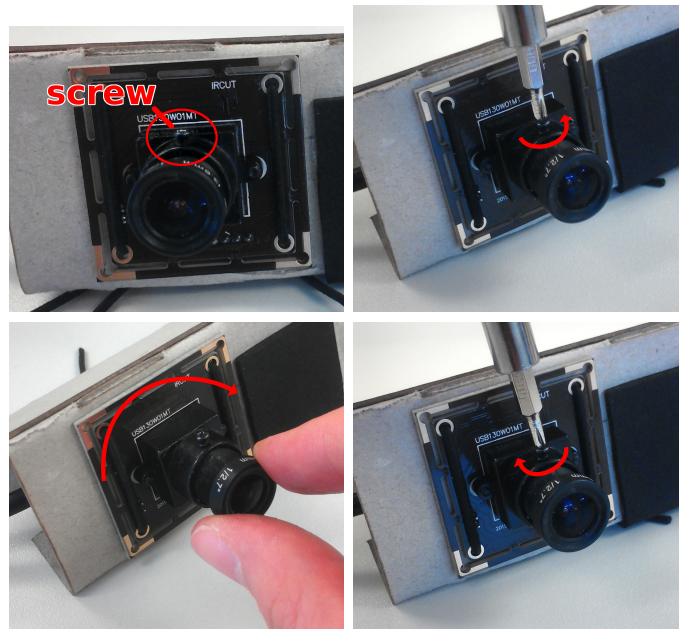
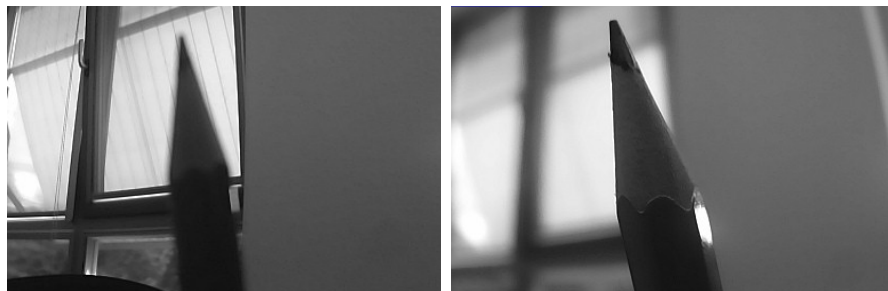

Figure 1.0.27: Setting the focal point on an ELP 960P HD 1.3 MP
Figure 1.0.28: Camera image before (left) and after (right) setting the focal point correctly
11. Now take the camera and a screwdriver. In this step you have to adjust the focus of the camera for the short distance. This is necessary because the camera image of the eye need to be sharp for easier pupil detection in Pupil Capture. The focus of the camera we used, the *ELP 960P HD 1.3 MP*, can be set by release the screw on the objective and turn the objective with the clockwise direction till the focal point is at a distance of 25 to 30mm. Figure 1.0.27 visualize this process and figure 1.0.28 shows the camera image before (left) and after (right) setting the focal point.